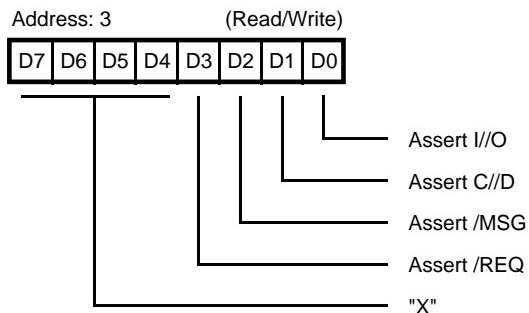

Figure 9. Target Command Register
Target Command Register. Address 3(Read/Write). When connected as a target device, the Target Command Register (Figure 9) allows the CPU to control the SCSI Bus Information Transfer phase and/or to assert /REQ by writing this register. The Target Mode bit (Mode Register, bit 6) must be True (1) for bus assertion to occur. The SCSI Bus phases are described in Table 2.